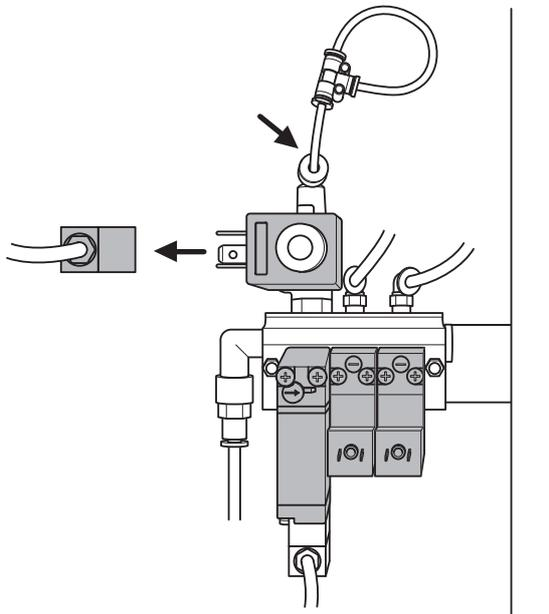

Fig. 38: Stopping the air supply behind Y13
- Stop the air supply behind the solenoid valve (Y13) as shown in Fig. 38., or pull out the electric plug.